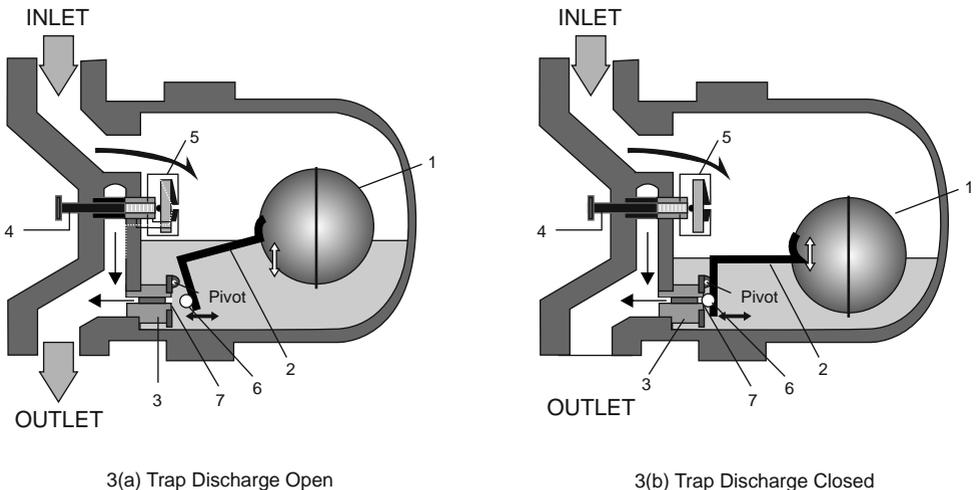

Figure3: Single Orifice Float trap working
4. Product Working Principle:(Refer to Figure 3)
Figure 3 shows a simple float trap operational representation. A float trap works on the Buoyancy Principle. Condensate enters the trap body and raises the float (1). The position of the float (1) depends upon the level/load of condensate (flowrate). The float trap continues to discharge condensate continuously and doesn't allow back up of condensate as long as the load is within the discharge capacity.
*The float trap in the figure 3. shows a TV+SLR assembly. SOFT31(DN40/50) comes with only TV or SLR assembly.